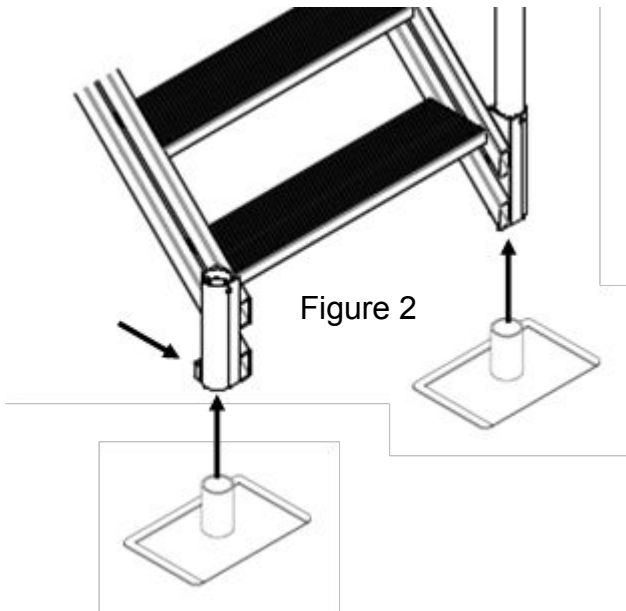

Figure 2
- 2 Insert Drop Leg and Base (C) into the bottom of each Stair Stringer (A). Secure with pinch bolt as shown in Figure 2. Drop Legs have roughly 5" of adjustment. Remember this will increase the rise of your first step. Adjust to desired height.